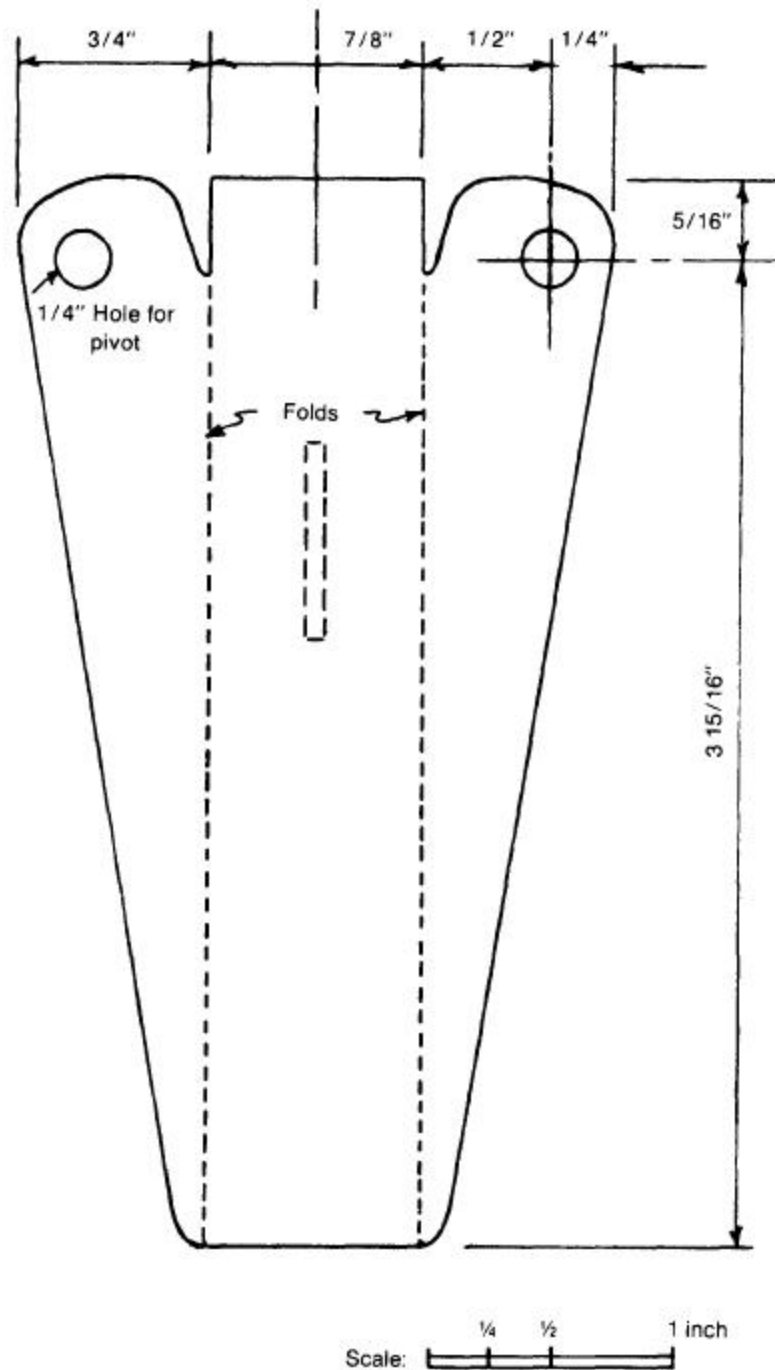

Figure 4—Template for cutting the 16-gauge sheet metal for the handle of the gritter.
- ?? one 2¹/₄- by 4¹/₄-inch piece (handle) plus a similar small piece to make three small tabs (fig. 4).